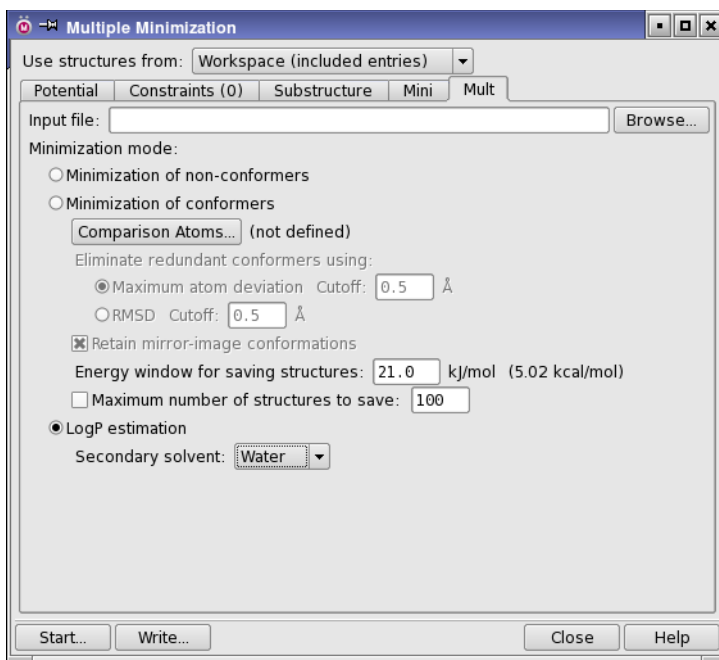

Figure 5.6. The Multiple Minimization panel showing LogP selected in the Mult tab.
6. In the **Mult** tab, select **LogP estimation** and choose **Water** from the **Secondary solvent** option menu (see Figure 5.6).